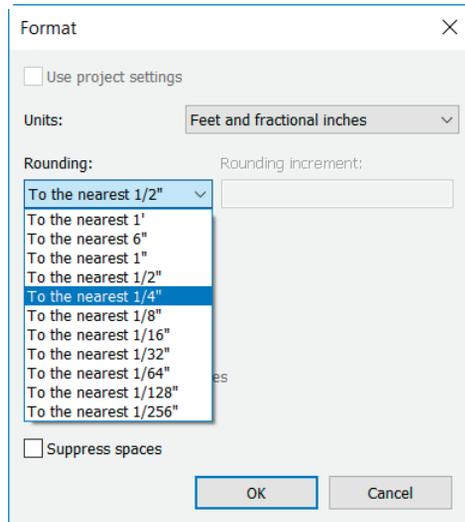

Figure 2-35 The *Format* dialog box
3. Click on the **Rounding** drop-down list and select the desired option, as shown in Figure 2-35.